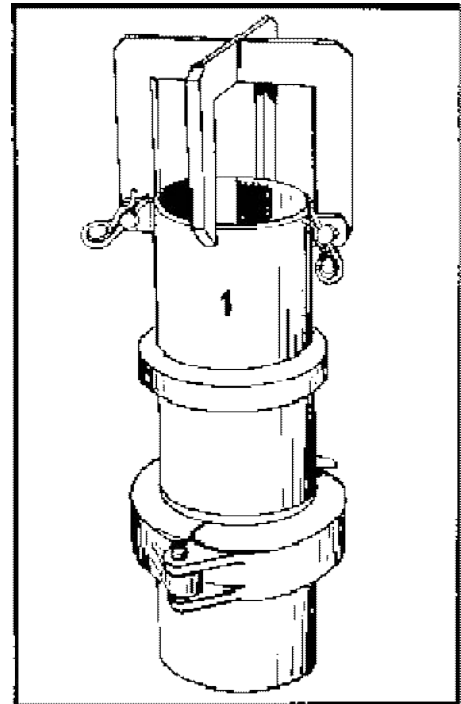

Fig.: 14
5. A trap basket must be connected to the concrete output (Fig.: 14).